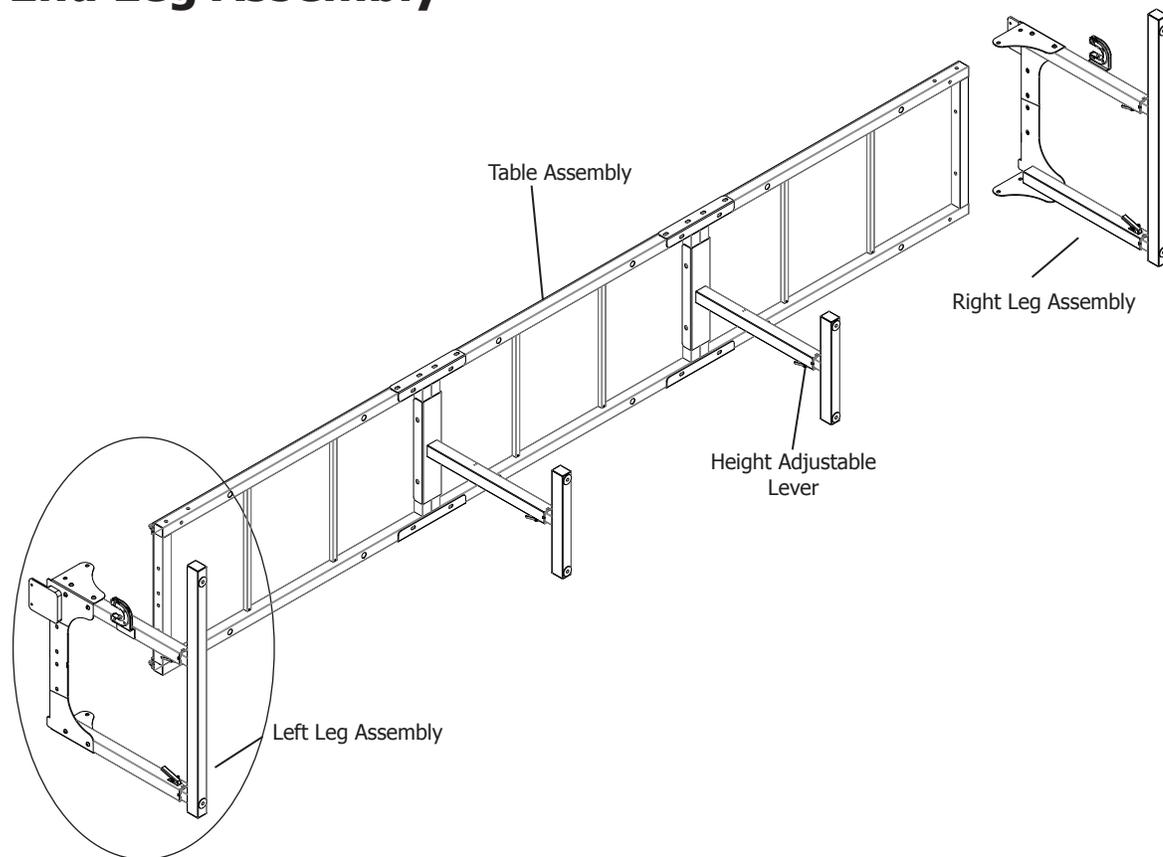

Fig. 4-1
**4-1:** In preparation for attaching the left and right leg assemblies to the frame, turn the frame on its side so the height adjustable levers are towards the ground, as shown in Fig. 4-1.